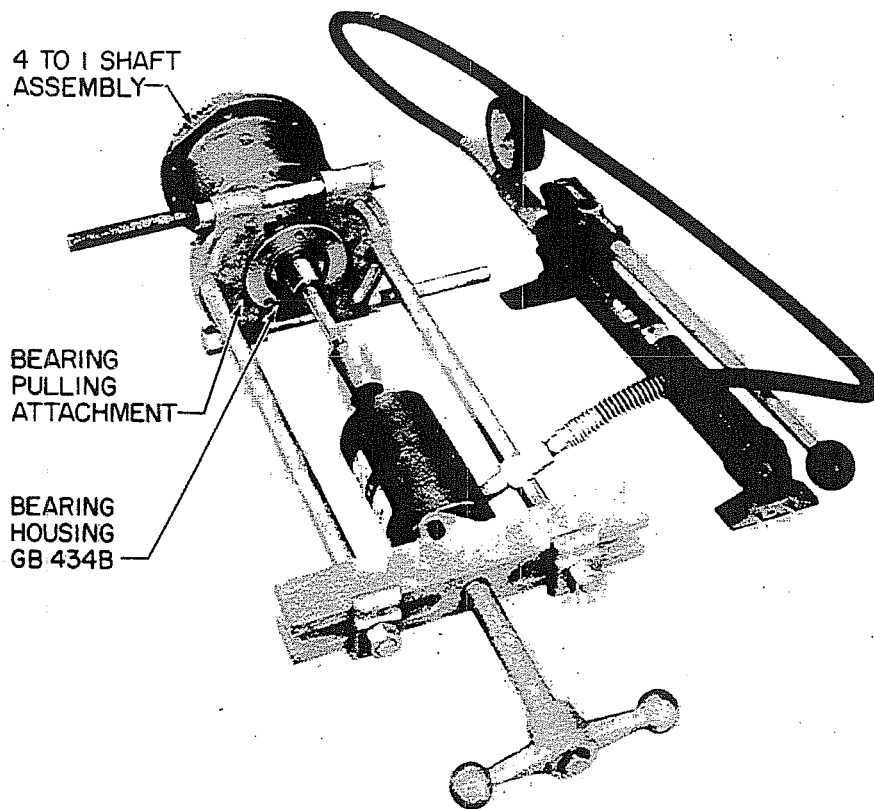

Figure 8. 4 to 1 Shaft, Removal of Bearing Housing GB434B
- C. Bearing Housing GB434B can be removed from Rake Crank Housing GB452 by threading two Flat Head Cap Screws GB433 into the two tapped holes on the front surface of Bearing Housing GB434B. As the screws are installed, the bearing housing can be lifted free of the rake crank housing. If the bearing housing will not lift free, secure the bearing pulling attachment behind the flange and apply pressure to the shaft (figure 8).